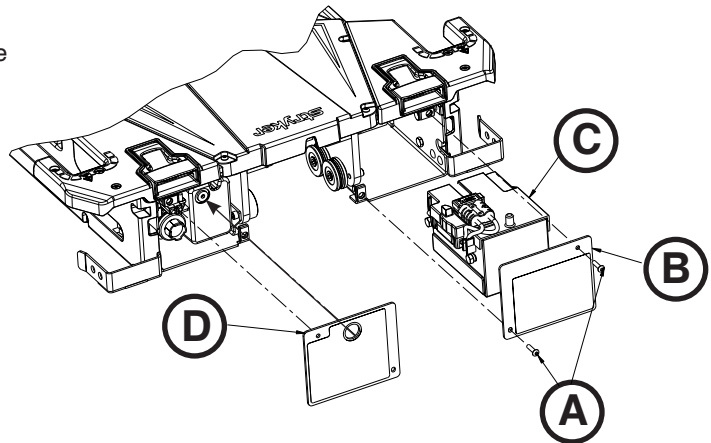

Figure 94
2. Using a T25 Torx driver, remove the two button head cap screws (A) that secure the rear trolley plate cover (B) to the trolley frame (Figure 94). Remove the cover.
3. Pull to remove the battery housing assembly (C) (Figure 94).
3. Using a 3/16" hex wrench, remove the fill plug (D) (Figure 94).